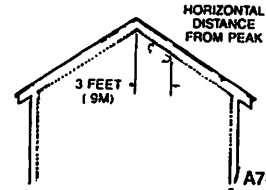

Figure 5: RECOMMENDED SMOKE DETECTOR LOCATIONS IN ROOMS WITH SLOPED, GABLED, OR PEAKED CEILINGS
- Some rooms have sloped, peaked, or gabled ceilings. If yours do, mount detectors 3 feet (0.9 meter) - measured horizontally- from the highest point of the ceiling. See Figure 5.